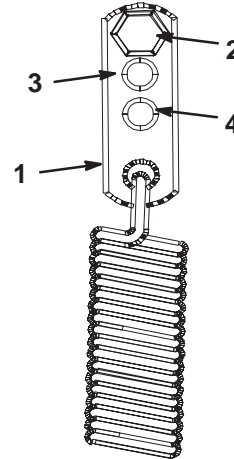

Figure 57
3. For a heavier drive setting, relocate the spring anchor links to either the **medium** or **heavy duty** positions (Fig. 57). The spring anchor links are attached to the upper rear corner of the hydro drive shields on the left and right sides of the machine.